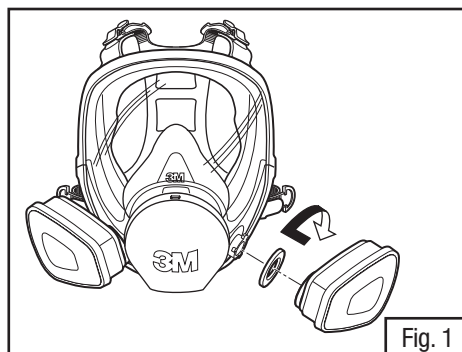

Fig. 1
3. Repeat with second cartridge (Fig. 1).